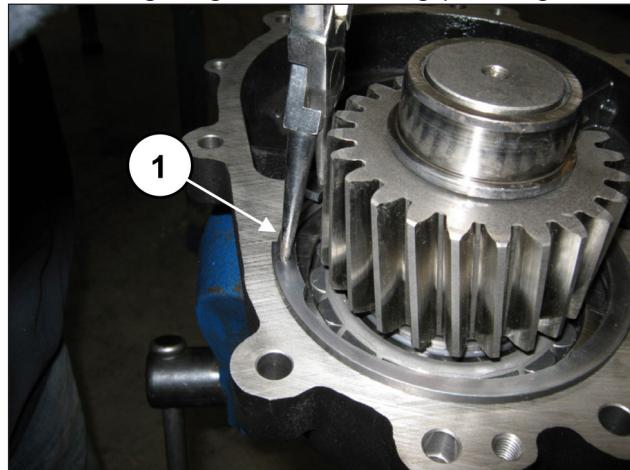

Fig. 88
Insert the Seeger ring Ø120 in the housing (pos. ①, Fig. 88).